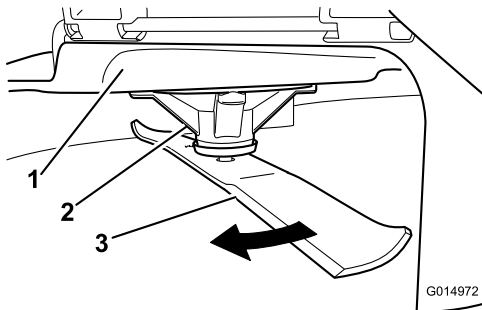

Figure 54
2. While wearing thickly padded gloves, or other adequate hand protection, slowly rotate the blade into a position that allows you to measure the distance between the cutting edge and the level surface the machine is on (Figure 54).